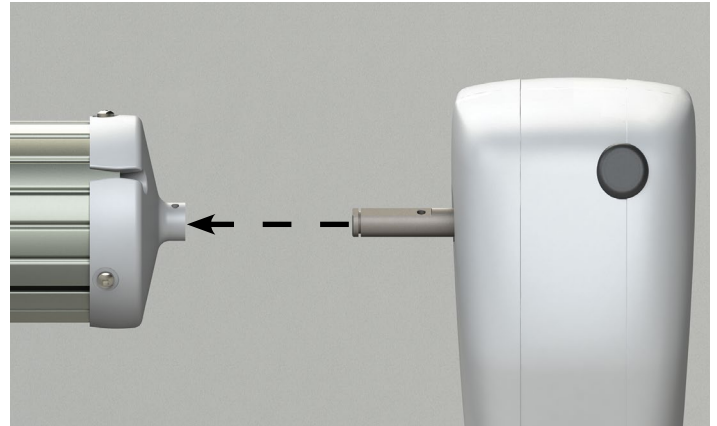

Fig.3
3. Insert the drive head assembly shaft into the end cap (Fig.3). Align the holes and secure with waxed screw. Repeat process for idler head assembly at opposite end.